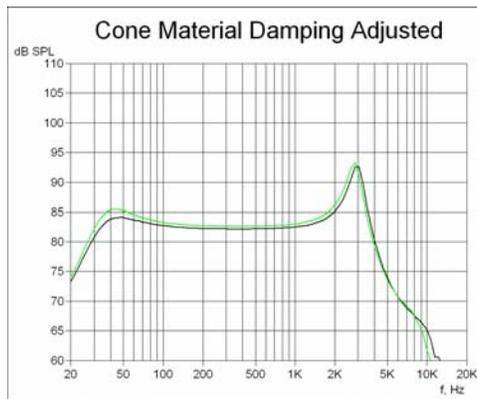

Figure 10 - Last approximation. Damping finally adjusted
- Finally adjust damping to match the measured response as well as possible, see fig 10.